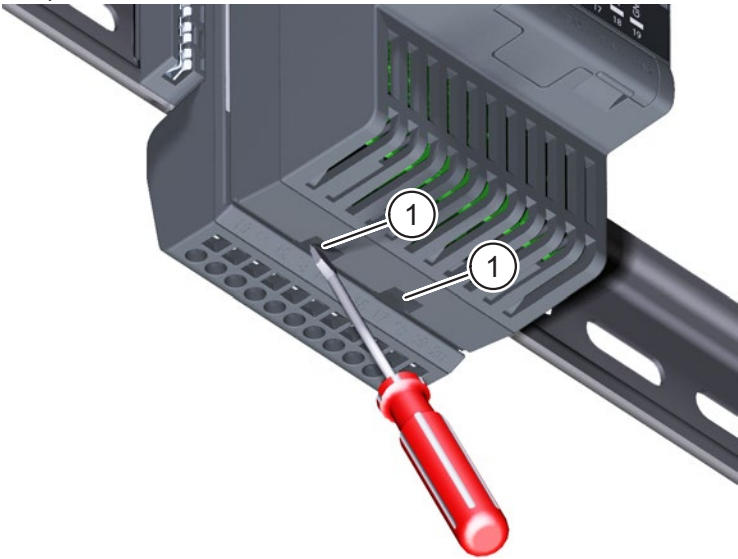

Fig. 7: Uninstalling the electronic module
- ▶ Insert the screwdriver into the two gaps (item 1 in Fig. 7) on the underside of the electronic module one after the other in order to detach the module from its fixing.